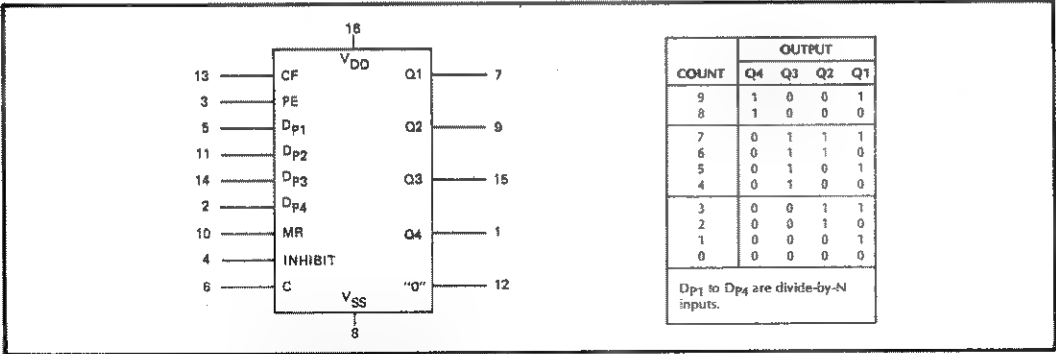

Figure 4-8. Programmable Divide-by-N 4-bit Counter (1820-1175 and 1820-1181)
4-21. These CMOS counters (Figure 4-8) are programmable, cascadable down-counters with a decoded "0" state output for divide-by-N applications. In single stage applications the "0" output is applied to the Preset Enable (PE) input. In cascade operations, the Cascade Feedback (CF) input allows cascade divide-by-N operation with no additional gates required. The Master Reset (MR) function provides synchronous initiation of divide-by-N cycles. The Clock Inhibit input allows disabling of the pulse counting function. In the 59308A, counter U43 is an 1820-1181 and U44 and U45 are 1820-1175's. The 1820-1181 cannot be replaced by the 1820-1175. A TTL logic clip or probe cannot be used on this circuit.